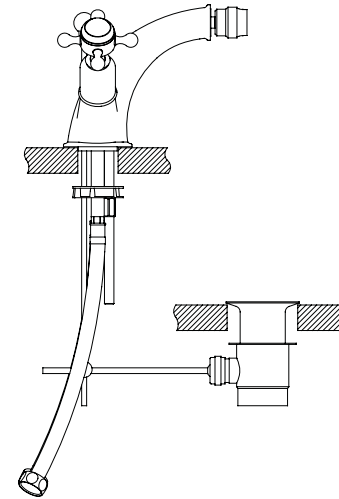

Fig. 2
- Use the rubber seal and horseshoe plate provided to install the bidet mixer into the bidet as shown in Fig. 2;